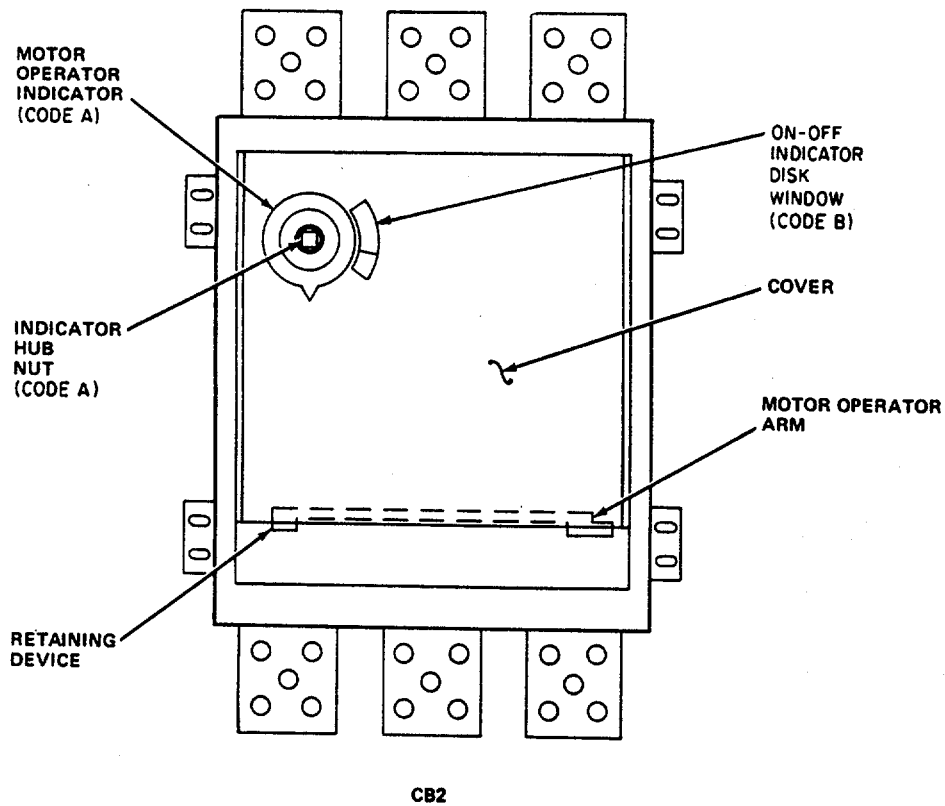

Figure 4-15. Main Circuit Breaker, CB2
- (2) Refer to figure 4-15 and manually restore electrical sequence by removing operator arm retaining device and removing operator arm, then install arm onto indicator hub nut and connect a 24V DC (0.5 amp or greater) power supply to the undervoltage trip (blue leads). Manually operate the breaker by moving the operator arm.
- (3) Replace operator arm as shown in figure 4-15.